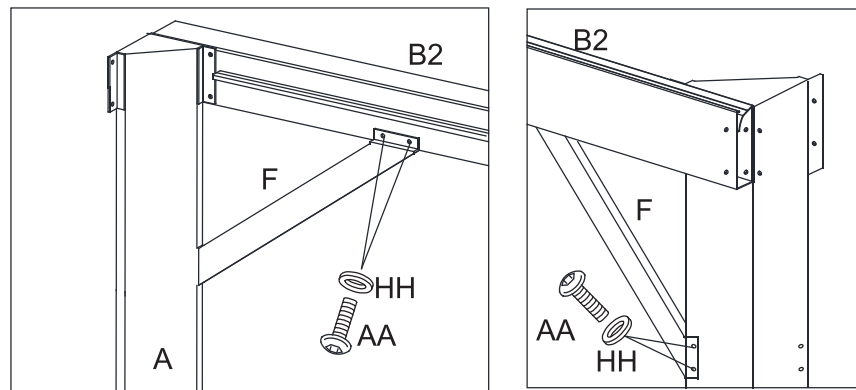

Figure 4.3
4.3: Attach Support Bars (F) to Corner Post (A) and to Lintels (B1/B2) with Bolts (AA) and washer (HH). See Figure 4.3.